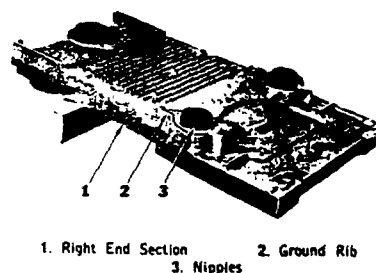

FIG. 1—Right End Section
2. Select right end section and place on block on floor, as shown in Fig. 1. Clean nipples and nipple openings with kerosene or gasoline and apply good lubricating oil. Do not use paint or red lead.